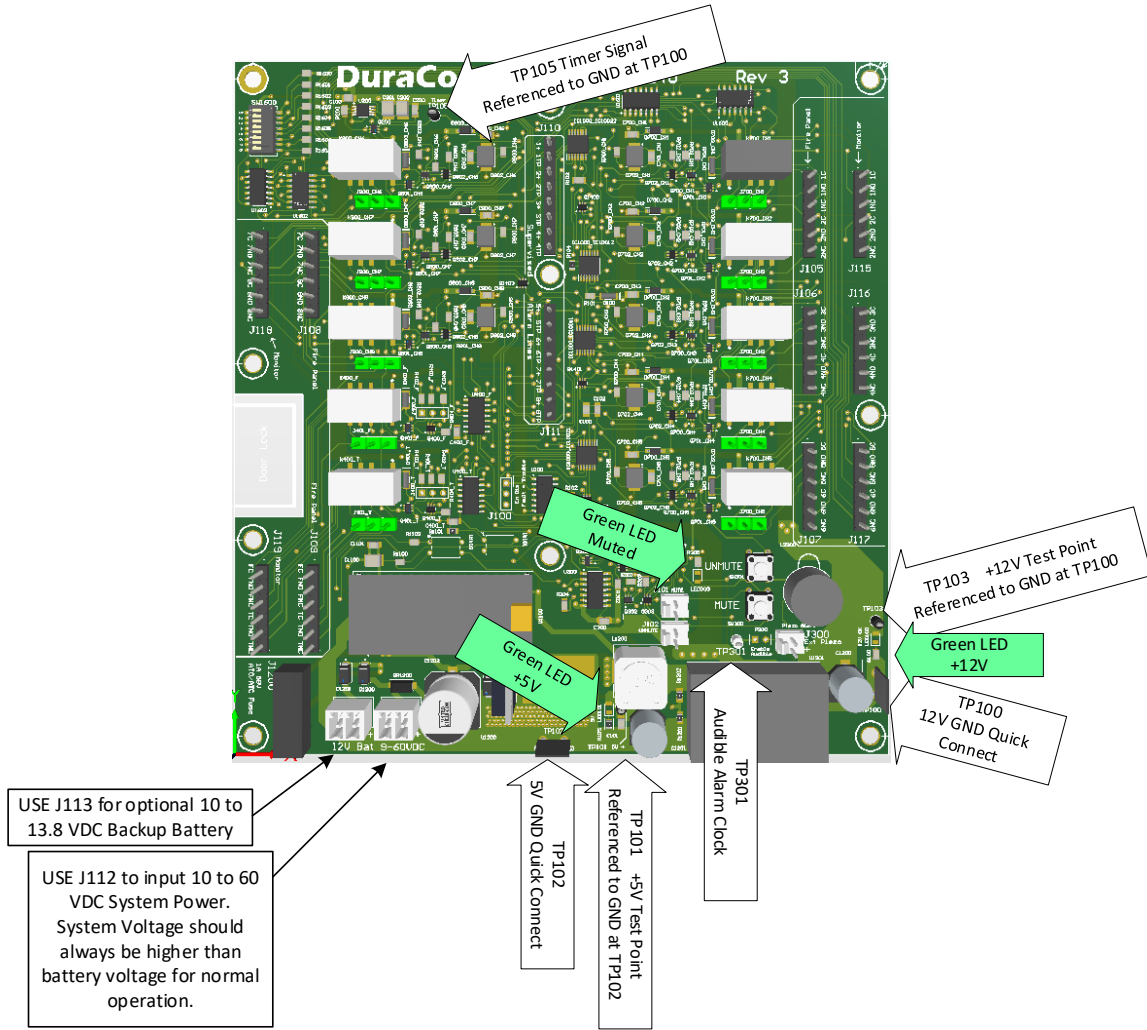
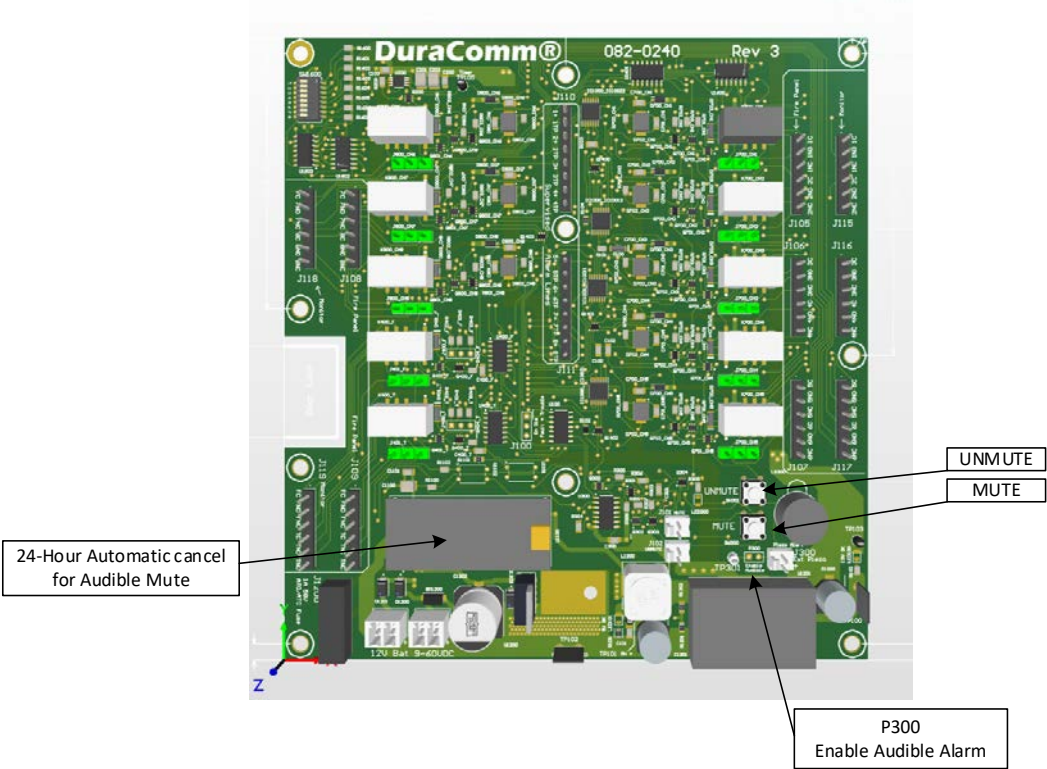

Figure 3: Test Points and LEDs
Figure 10: Audible Alarm Control
7. Apply Power to J112 (10-58VDC). Verify 5v and 12V power LEDs are on. See Figure 3
9. Remove Power from J112. See Figure 3.
12. Restore Power to J112. See Figure 3.
14. Test Each alarm circuit for closed and Open contacts to verify operating properly. RED alarm LED should flash ON and OFF approximately once per second when alarm is active. Audible alarm should sound for any non-green condition. Press MUTE Button when alarm is sounding to silence alarm for 24 hours (see Figure 10). Green LED next to UNMUTE button will turn on when audible alarm is muted (see Figure 3). Press UNMUTE to re-enable audible alarm. Correcting the alarm condition for all channels will also cancel the audible alarm. Each time MUTE is activated, the 24-hour UNMUTE is reset.